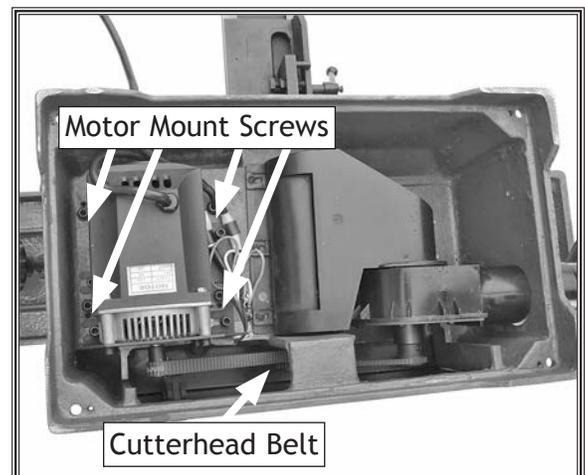

Figure 47. Motor mounting screws and belt locations.
5. Loosen the four motor mounting cap screws (see **Figure 47**), but do not remove them.